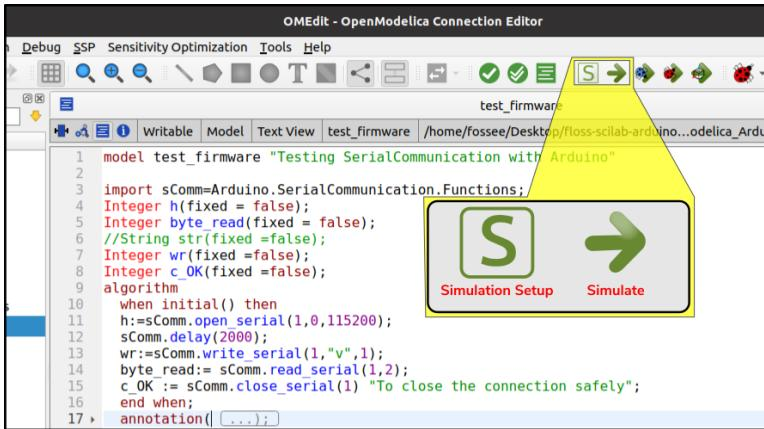
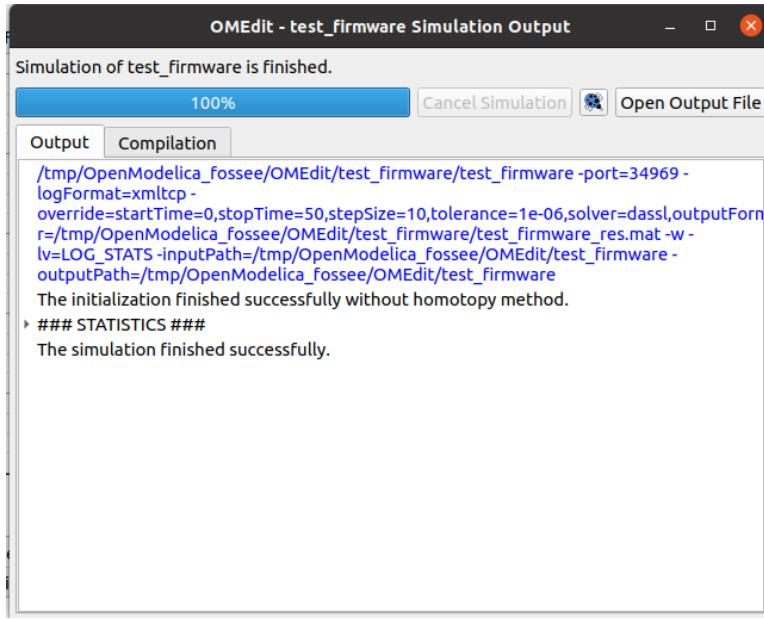

Figure 3.13: Simulating a model in OMEdit
Figure 3.14: Output window of OMEdit
Now, we will see how to simulate this model. For this, we need to ensure that OMEdit is in Modeling Perspective. Next, we will click on the green right-sided arrow, named as Simulate, as shown in Fig. 3.13. When we click on Simulate, OMEdit will first compile the model and then, it will simulate the model for the time specified in the model itself. As OMEdit provides an elegant user interface for simulating the models, it will open an output window the moment you click on Simulate. Fig. 3.14 shows the output window after the simulation of our model is finished. Also, we can observe that the OMEdit is now in Plotting Perspective.
As shown in Fig. 3.14, OMEdit displays the message that "The Simulation finished successfully". Had there been any
**OpenModelica Code 3.1** An OpenModelica code/model to check whether the firmware is properly installed or not. Available at Origin/tools/openmodelica/windows/test\_firmware.mo, see Footnote 2 on page 3. Locate this file inside OpenModelica-Arduino toolbox, as explained in Sec. 3.2.4. Simulate this code/model by following the steps given in Sec. 3.2.3. If the simulation is successful, you should expect an output window in OMEdit as shown in Fig. 3.14.